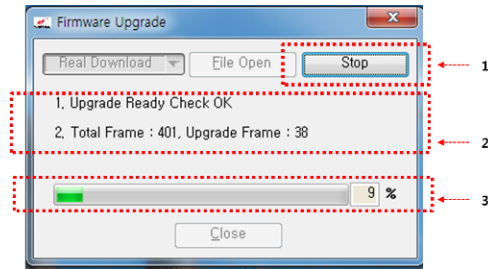

Figure 7-3: Firmware Update Status
6. Click **YES** in the Firmware Version Check dialog window, Figure 7-3. The firmware upgrade begins, as indicated by the progress bar in the Firmware Version Check window, Figure 7-3.